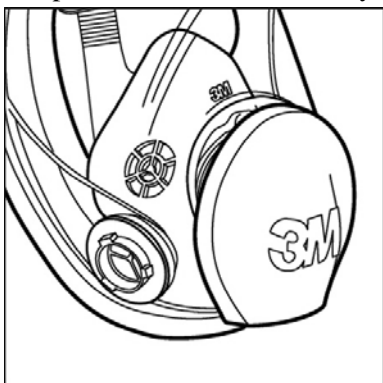

Fig. 17
2. Install new gaskets onto facepiece inhalation port bayonet fittings. Be certain gaskets are in proper position under all three bayonet lugs. (Fig. 17)